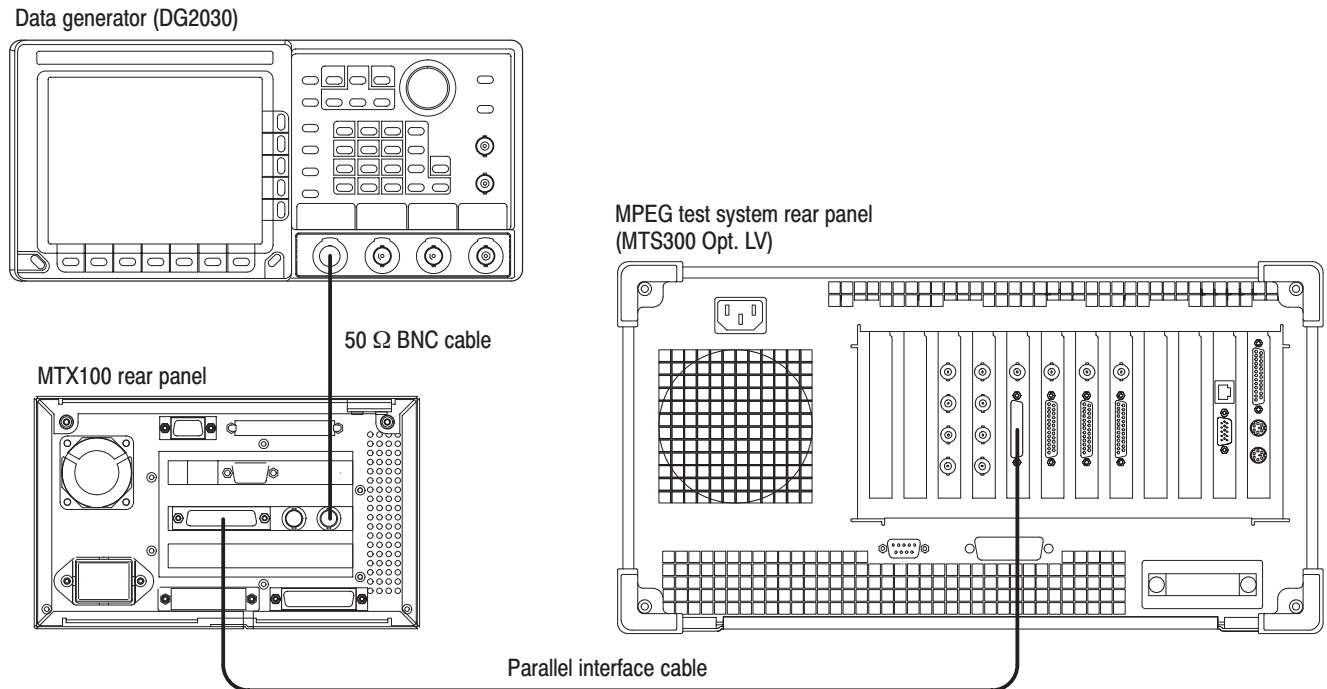

Figure 4-2: Equipment connections for verifying the external clock/reference input
1. Use the 50 Ω BNC cable to connect the CLK/REF IN connector on the MTX100 to the CH0 connector on the front panel of the data generator as shown in Figure 4-2.
2. Use the parallel interface cable to connect the SPI IN/OUT connector on the MTX100 to the SPI (LVDS) 3 IN connector on the rear panel of the MPEG test system as shown in Figure 4-2.